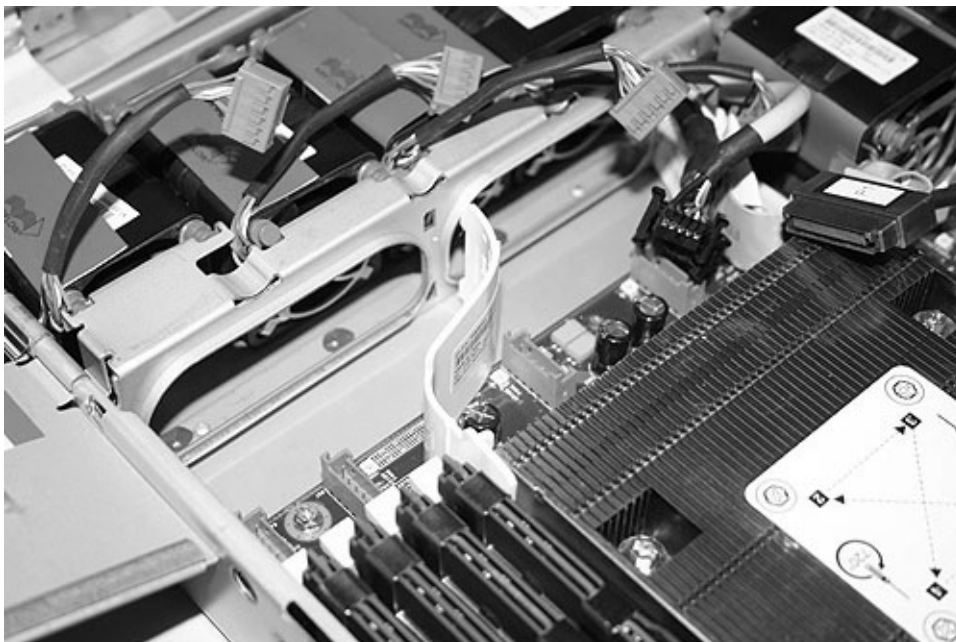

Figure 285. Right air baffle on the SAN Volume Controller 2145-8G4 system board
11. Remove the right air baffle, which is shown in Figure 285. First, pull the air baffle to the right and then push the connector towards the back of the unit to release it from the support rail. Next, pull the baffle forward and then upward to release the clip from the system board. Finally, lift the baffle free.